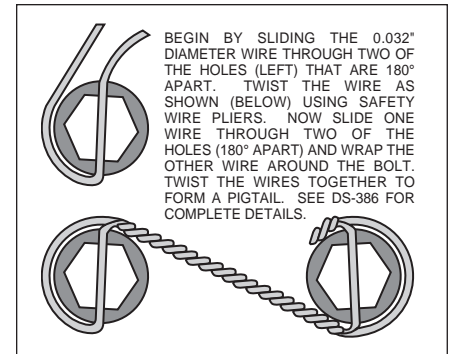

Figure 3. Safety Wire Diagram
- The flat spindle/caliper mounting bracket (1) should be installed first with clean, dry threads on the mounting bolts. Install the bracket on the back side of the spindle by sliding bolt (2) through the bracket (1) and into the upper hole of the spindle upright boss. Torque bolt (2) to 140 ft-lb. Slide bolt (3) through lower spindle “ear”, through the bracket (1), washer (4), and secure with nut (5). Torque bolt (3) to 77 ft-lb. The bracket must tighten squarely against the side of the spindle body. Inspect for interference from casting irregularities, machining ridges, burrs, etc.
- With the larger I.D. side of the rotor (6) facing away from the hat (7), bolt rotor (6) to hat (7) through the backside of the rotor using bolts (9), and washers (8). Using an alternating sequence, apply red *Loctite*® 271 to the threads and torque bolts to 155 in-lb. For an added measure of security, the bolts may be safety wired using standard 0.032 inch diameter stainless steel safety wire as shown in Figure 3. Please refer to Wilwood’s data sheet DS-386 (available at [www.wilwood.com/Pdf/DataSheets/ds386.pdf](http://www.wilwood.com/Pdf/DataSheets/ds386.pdf)) for complete safety wire installation instructions.